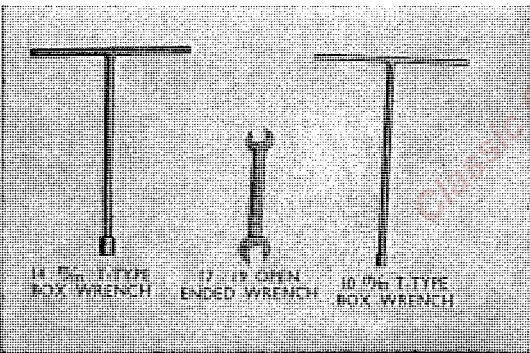

Fig. 4.46 Tools required for disassembly and assembly of stand
1. Tools required for disassembly and assembly of the stand. (Refer to Fig. 4.46)